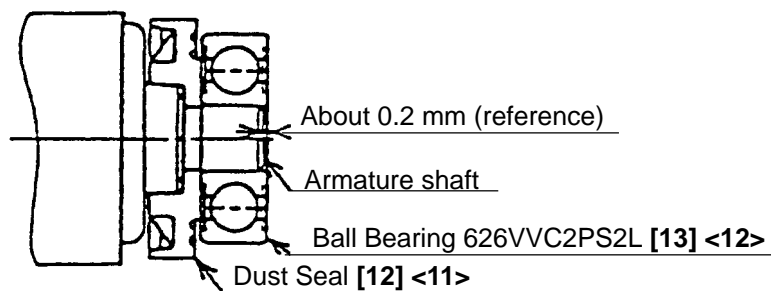

Fig. 3
- (1) Ensure that the terminals of the stator are not bent or otherwise damaged.
- (2) Generously lubricate the teeth of the gear and the pinion with grease. Rub grease onto the teeth with your fingers so that the grease reaches each tooth bottom. Note that the gear and the pinion may wear faster than normal if under-lubricated.
- (3) Be sure to soak the inner diameter of the Felt Packing [21] <20> with machine oil. Otherwise, its dust-sealing function will fail to work properly, resulting in earlier damage of the Ball Bearing 6201VVCMP52L [20] <19>.
- (4) When replacing the Armature [8] <7> and the Ball Bearing 626VVC2PS2L [13] <12> on the commutator side, press inward on the Dust Seal [12] <11> while taking care of its direction until the end face of the Dust Seal [12] <11> contacts against the end surface of the Armature [8] <7> and make sure that Dust Seal [12] <11> cannot be turned freely by hand. Keep the end face of the armature shaft approximately 0.2 mm (reference) distance inward of the end face of the Ball Bearing 626VVC2PS2L [13] <12> (see Fig. 3).